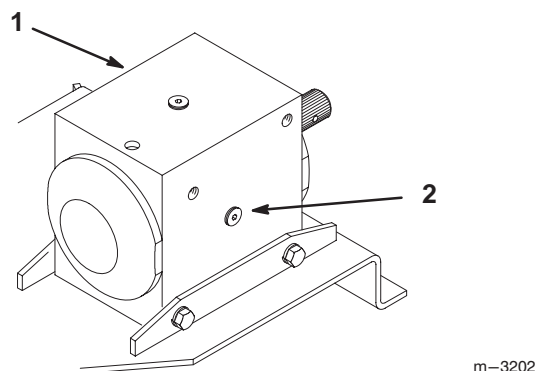

Figure 35
5. Remove plug on the side of the gearbox and check the level of lubrication in the gearbox. If level is low, add SAE EP-80/90 wt. gear oil until level is up to side plug in gearbox. (Fig. 35).